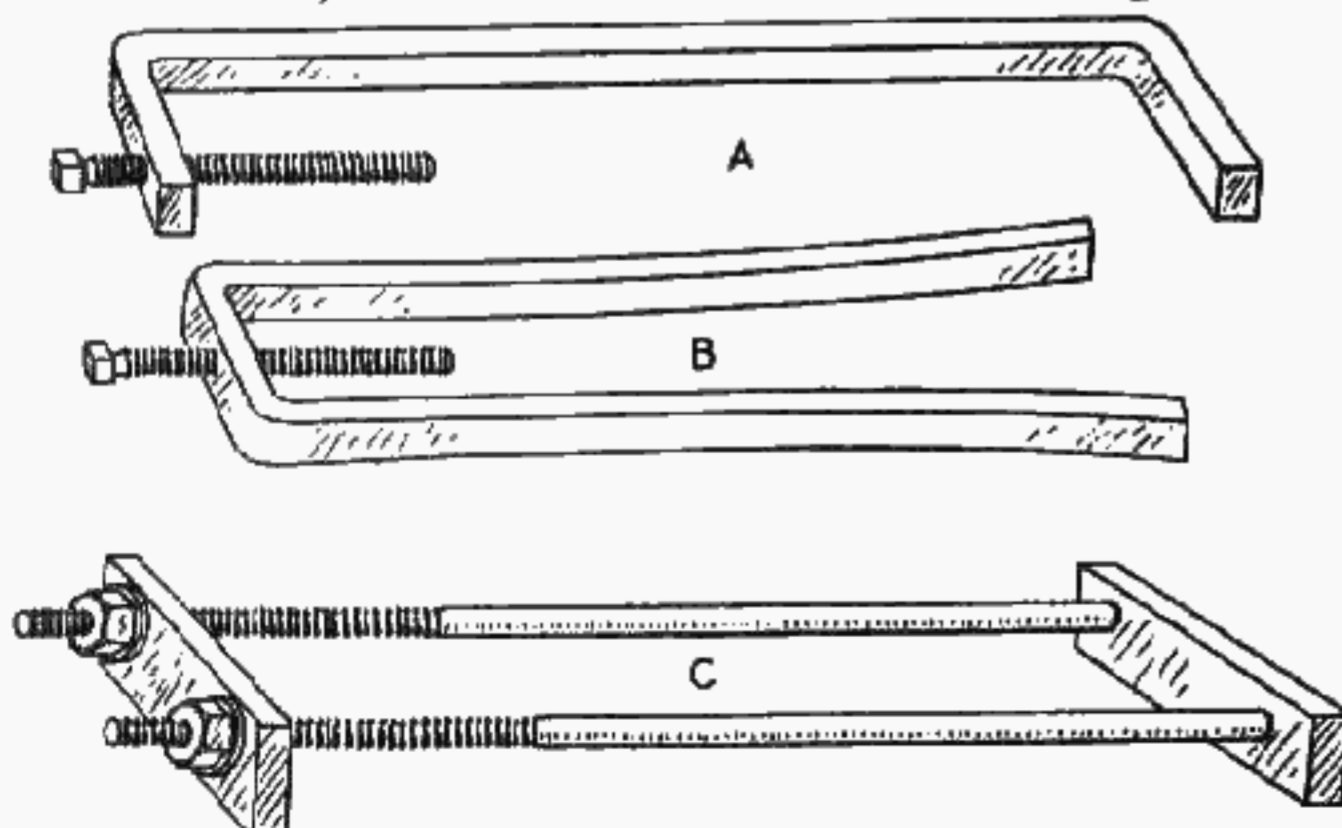

Fig. 28
**CLAMPS:** For attaching horn, ebony, ivory or other forend tips, there are two special types of clamp, known as the long C-clamp, and the Y-clamp or fork clamp. Figure 28 A shows the long C-clamp, which is made of a piece of 3/4x5/8 inch cold rolled steel heated and bent as shown, and one end drilled and tapped to receive a standard 3/8 inch cup-point set screw 3 inches long. These clamps may be made any length required, so that one end is in-
Sketch C, Figure 28, shows the butt clamp with which every gunsmith is familiar. This is used largely in stocking shotguns and single shot rifles. The end pieces are 1/2 x 1 1/4 inch cold rolled steel, with 7/16 holes drilled in ends. Into these place two long 3/8 inch bolts, and long enough to reach from the front of action to the butt of stockblank. The distance between the rods should be 4 inches. If long bolts cannot be secured use iron rods and thread both ends for nuts. When placing clamp on the work, tighten up the nuts on opposite sides a little at a time, to equalize the pressure.